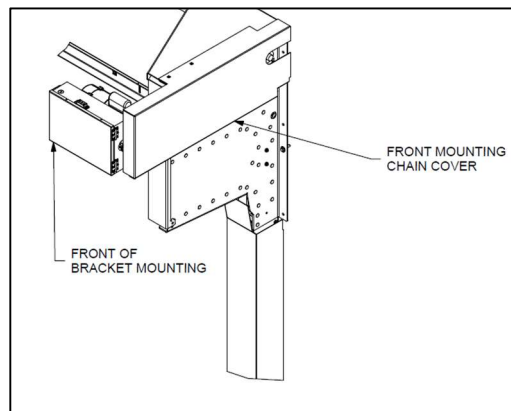

Figure 40– FRONT MOUNTING CHAIN COVER OPTION
- Front mount configuration: Use the 1/2 [13mm]" carriage bolts hardware provided to attach the chain cover to front of bracket motor support, Reference **Figure 40**.